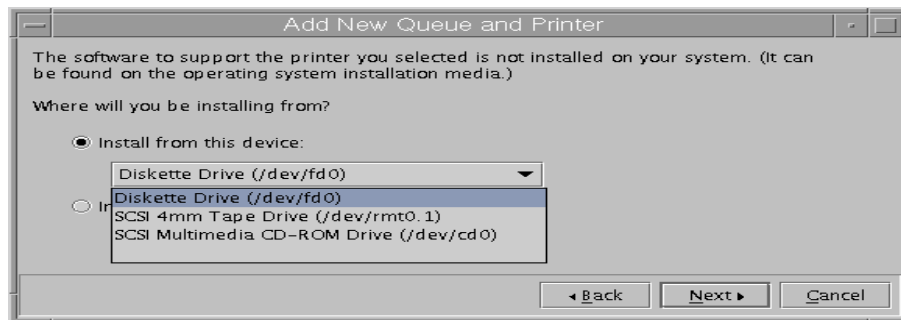

Figure 29. Selecting a installation media
- The next step is to select installation media. You can install printer devices using floppy disks, tapes, CD-ROM, or by specifying any directories which contain this image. Normally, this software will be on the AIX 5L installation media. In this example, select CD-ROM drive and click **Next**, as shown in Figure 29. The printer devices will actually be installed at this time.